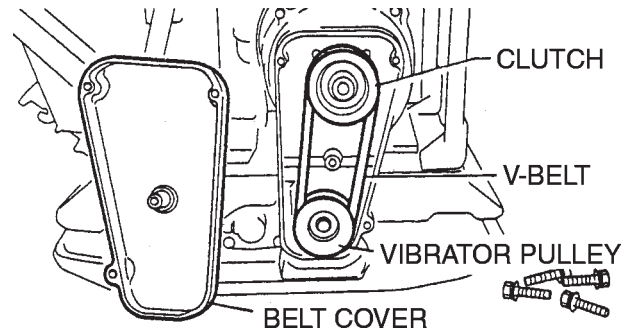

Figure 21. V-Belt Check
1. After 200 hours of operation, remove the belt cover to check the V-belt tension (Figure 21). Tension is proper if the belt bends about 3/8" (10 mm) when depressed strongly with finger between shafts. Loose or worn V-belts reduces power transmission efficiency, causing weak compaction and reduces the life of the belt itself.